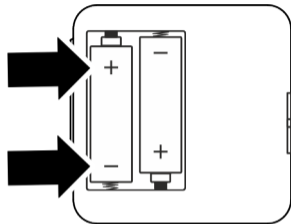

Fig. 4: Inserting the battery
3. Insert the two alkaline batteries of type 1.5 V AA LR6 into the housing cover, ensuring the correct polarity (Fig. 4).
5. Insert the two alkaline batteries of type 1.5 V AA LR6 into the housing cover, ensuring the correct polarity (Fig. 4).